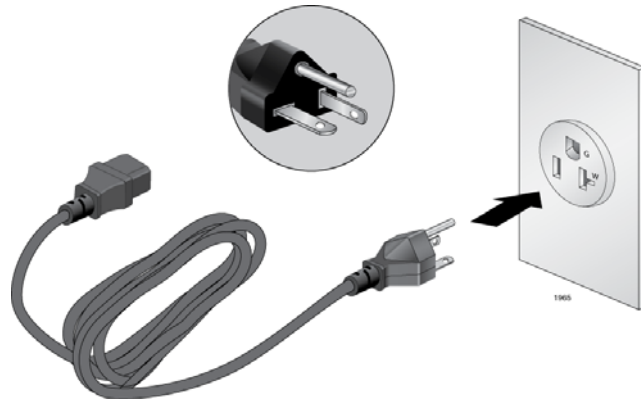

Figure 37. 100 - 125 VAC 125 V NEMA 5-20 Plug and Receptacle
- The power cords provided with the AT-SBxPWRSYS1 and AT-SBxPWRPOE1 Power Supplies for 100-125 VAC installations have 20 Amp, 125 V NEMA 5-20P plugs. The plug is only compatible with a NEMA 5-20R receptacle. See Figure 37 on page 97.